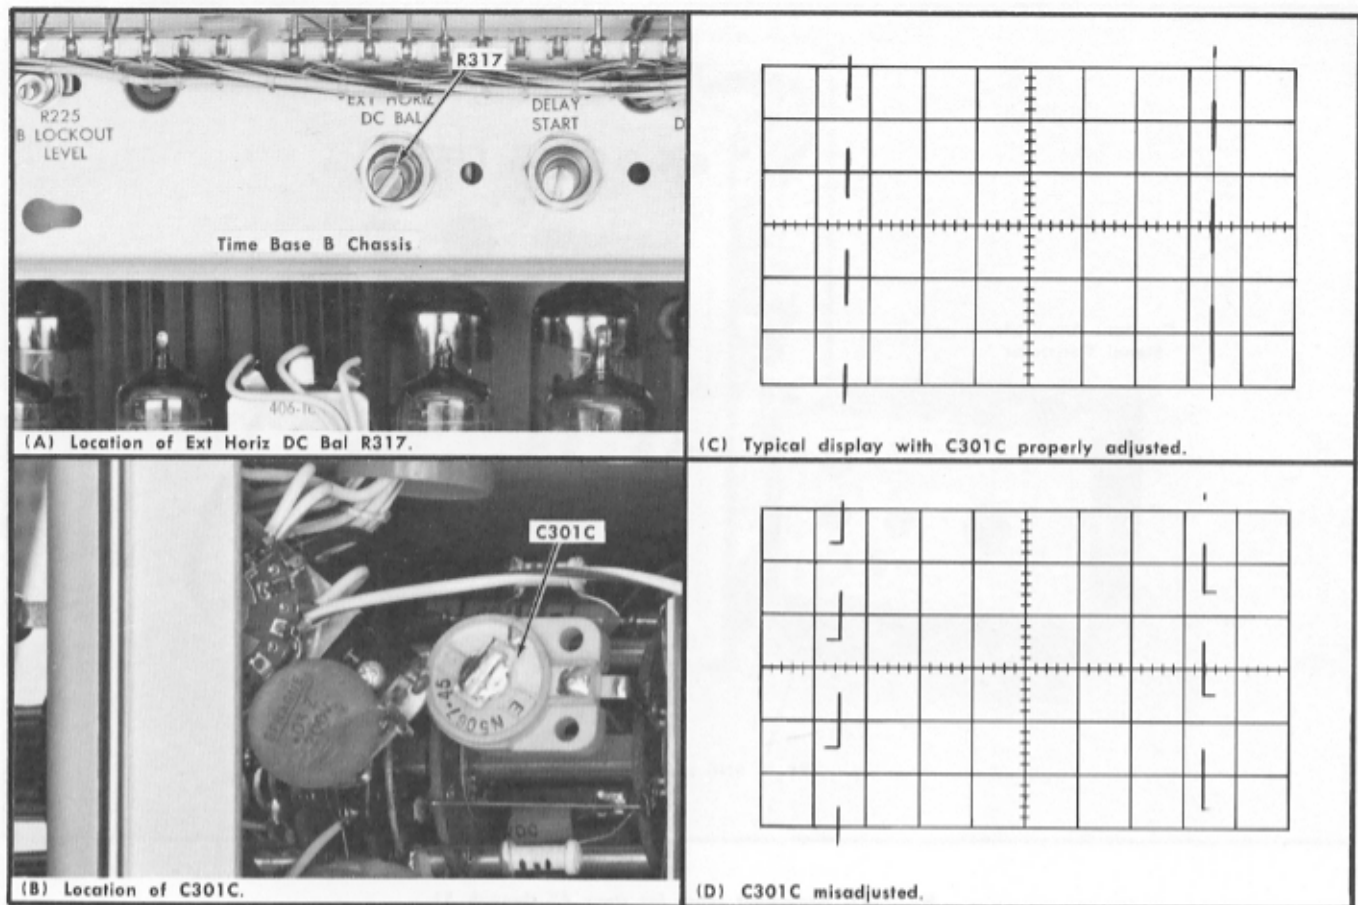

Fig. 6-42. External horizontal adjustments.
- Adjust the Ext Horiz DC Bal R317 (see Fig. 6-42) for no horizontal shift of the waveform baseline (to the left) while rotating the VARIABLE 1:10 control from a clockwise to fully counterclockwise position.
49. Adjust External Horizontal 10X Compensation ①